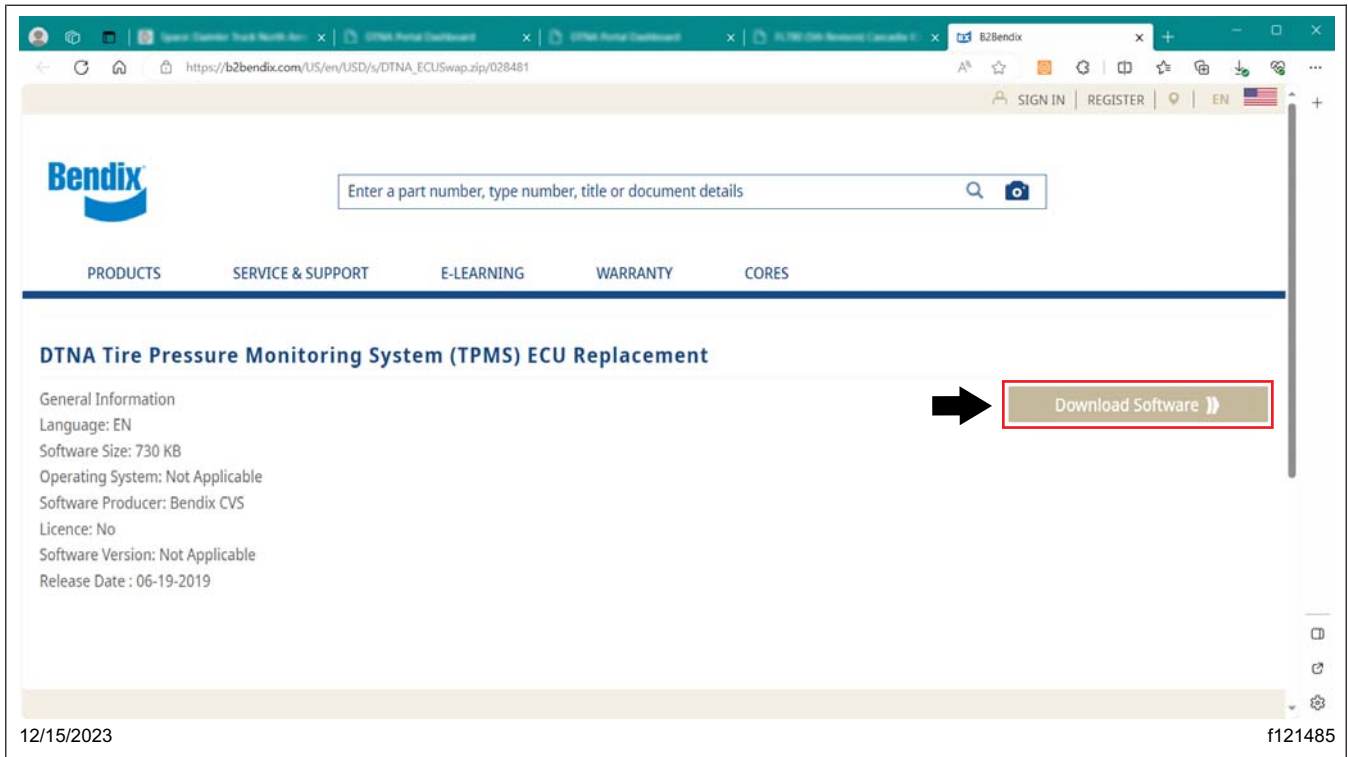

Fig. 17, Starting the Software Download
1.7 A new tab in the browser opens, select 'Download Software' to begin the download. See **Fig. 17**.